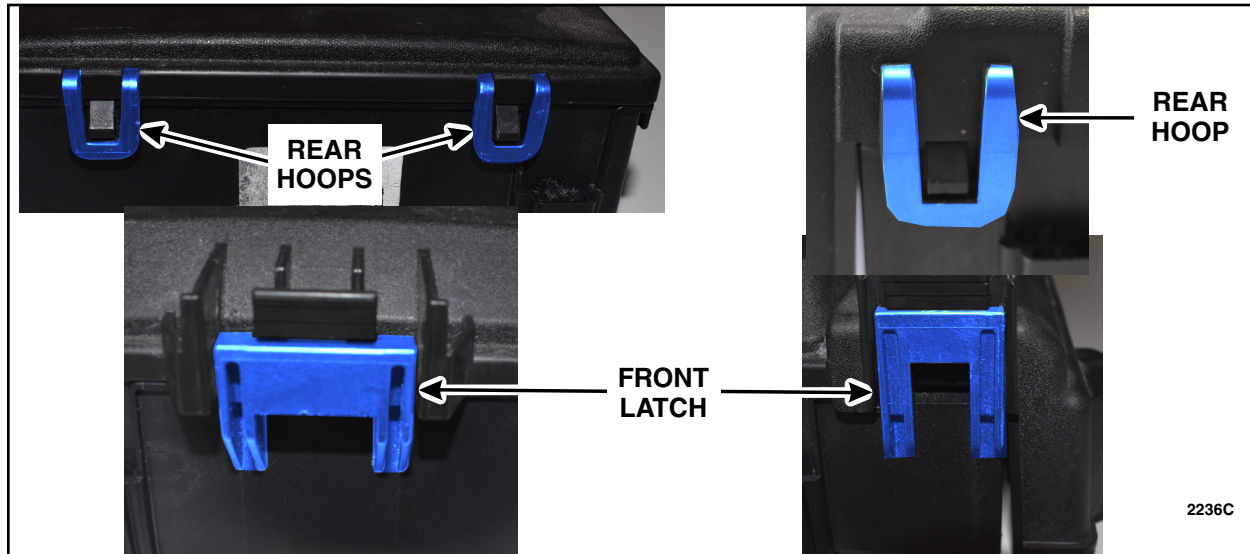

FIGURE 3
2. Check to make sure that the covers are properly installed. On the fuse box cover there are three attachment features securely engaged, two hoops in the rear and one latch in the front. On the High Current cover there are two attachment features securely engaged, one hoop in rear fully engaged and one latch in the front fully engaged. See Figure 3. Are both covers properly installed?